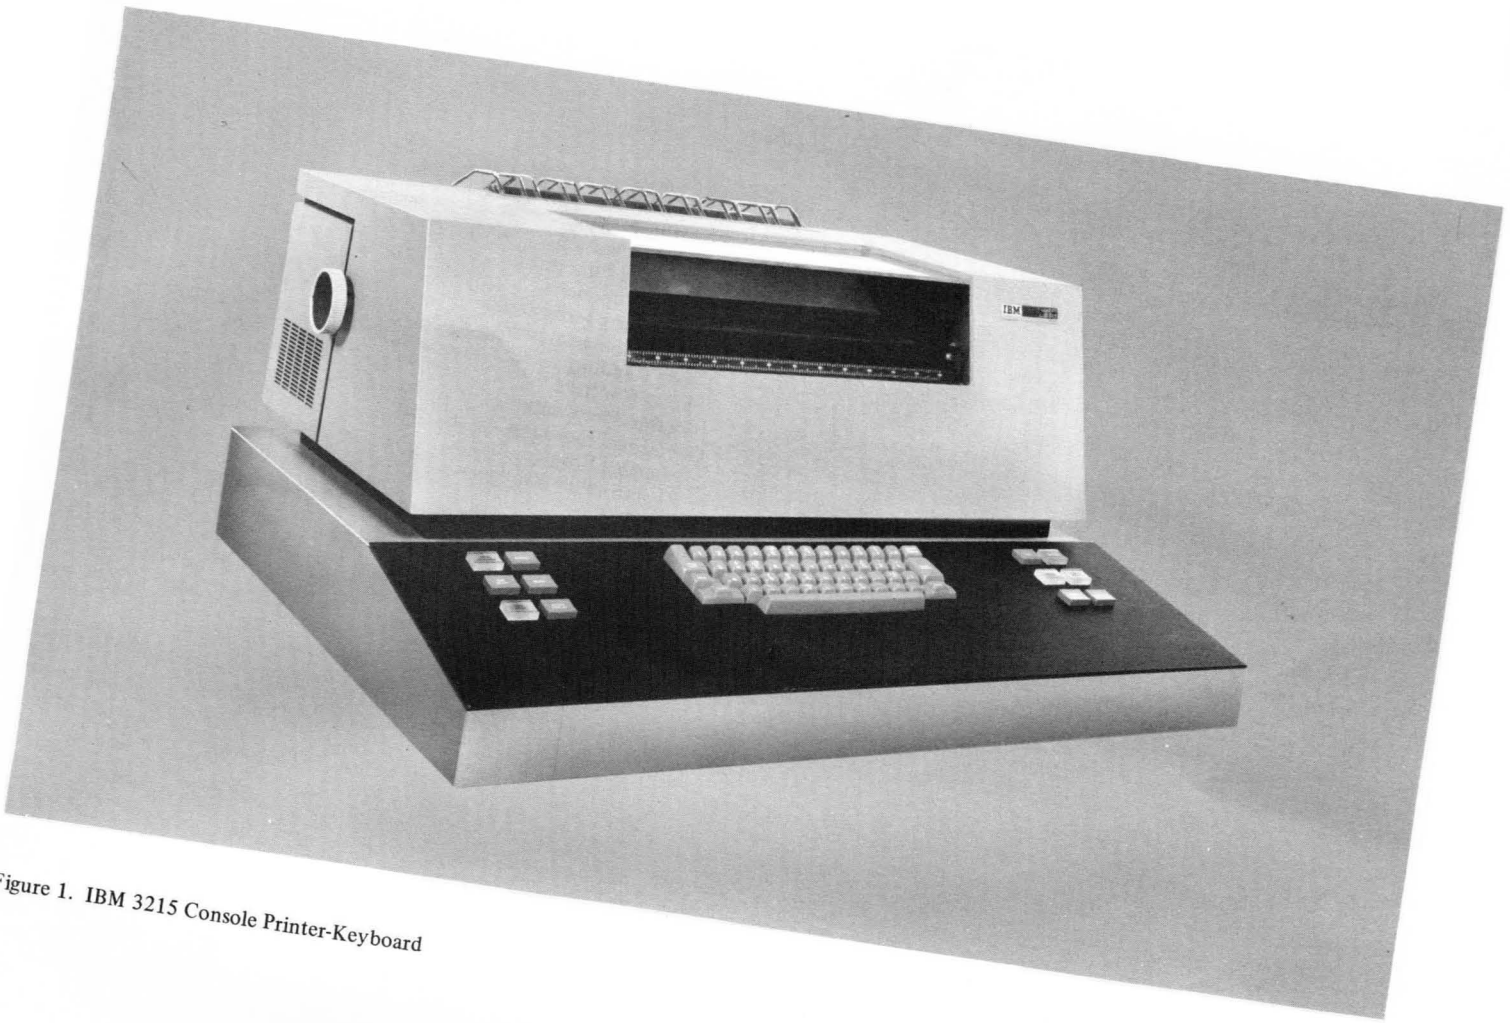
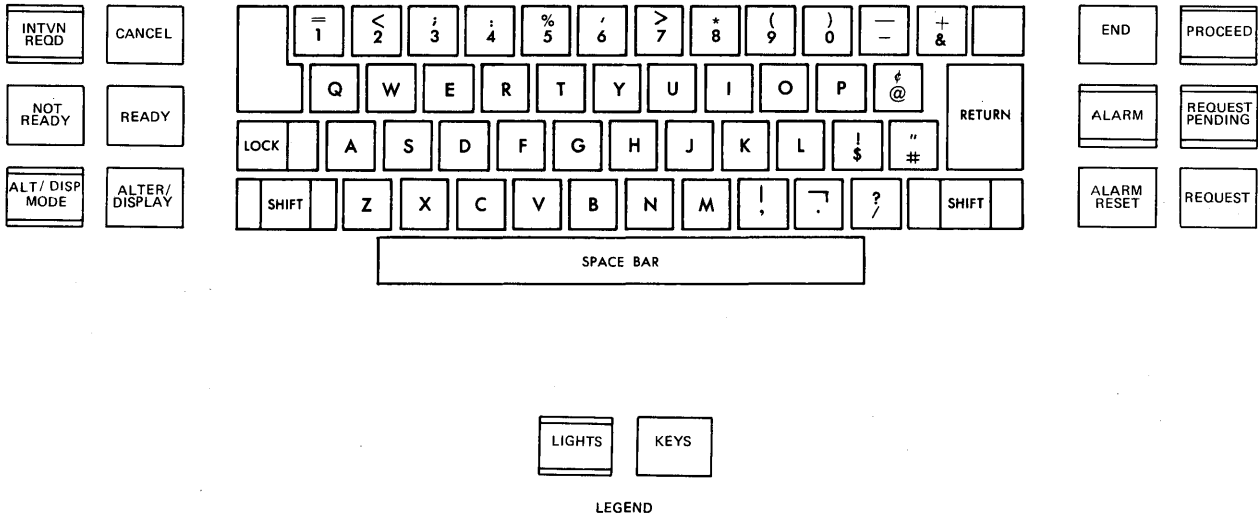

Figure 1. IBM 3215 Console Printer-Keyboard
Figure 2. Keyboard Schematic
The 3215 Console Printer-Keyboard (Figure 1) is a table-top printer and keyboard that provides independent keyboard entry and printed output for the IBM data processing system to which it is attached. The keyboard (Figure 2) permits rapid and flexible communication between the operator and the data processing system, for manual entry into storage and alter/display functions. Eighty-eight (88) graphic characters can be sent to the system at a rate up to 15 characters per second.
The keyboard has 44 character keys and the normal shift, shift lock, return keys, and space bar that perform normal typewriter functions. Figure 2 shows the control keys and indicator lights for the keyboard.